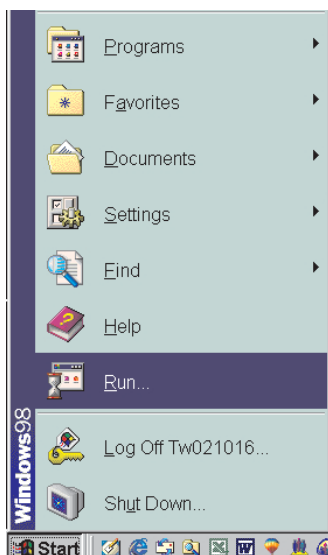

Fig. 6
2. Click **Start**, choose Run at start menu of Windows as shown in Fig. 6.